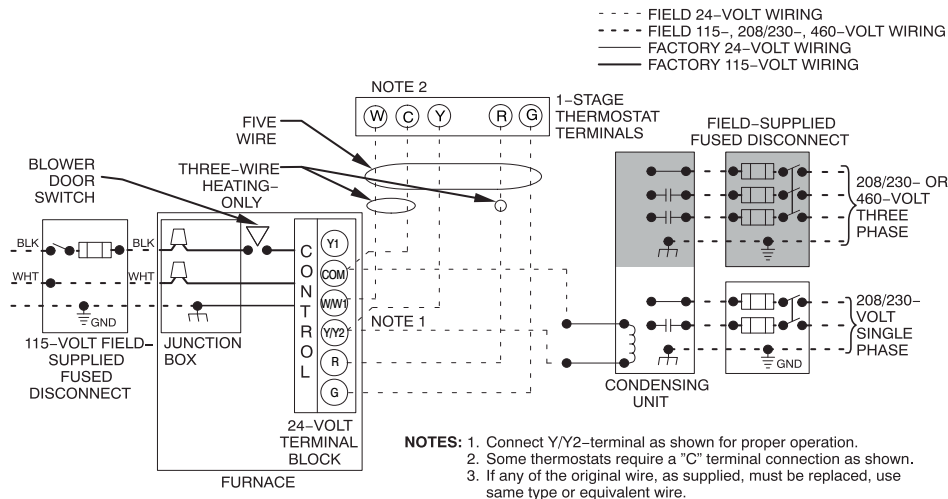

Fig. 33 – Typical Single-Stage Field Wiring Diagram
See Fig. 33 for field wiring diagram showing typical field 115-v wiring. Check all factory and field electrical connections for tightness.
6. Connect power cord power and neutral leads to furnace power leads as shown in Fig. 33.
5. Connect field power and neutral leads to furnace power leads, as shown in Fig. 33.